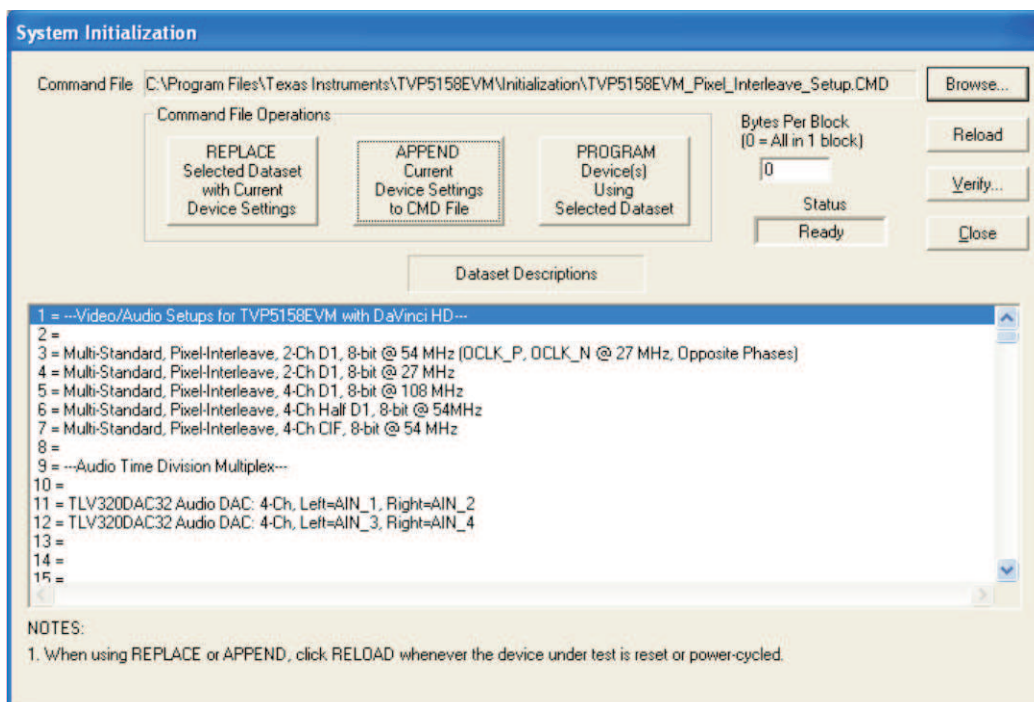

Figure 17. System Initialization for Pixel Interleave Modes
2. The dataset descriptions table should now appear as shown in Figure 17. Click once on the following table entry: